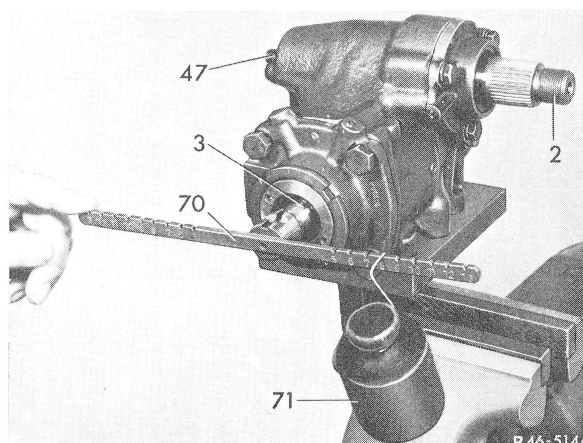

Fig. 36
34 Screw adjusting screw (47) into steering case until it is hard to move (Fig. 36).
36 Loosen adjusting screw (47) until the steering worm (3) is easy to turn, then measure friction torque of steering worm and measure friction value (Fig. 36).